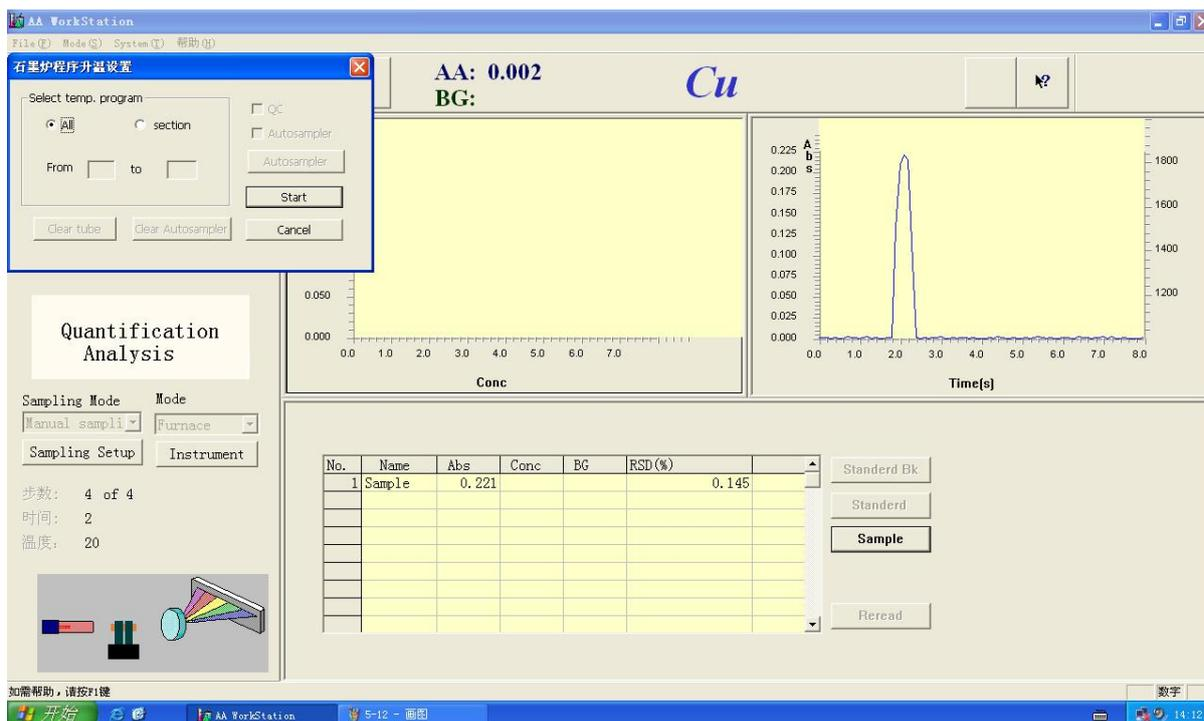

Figure 5-13
17. When the furnace cools warning tone of “du” will sounds,the “Stop”change into “Start”,Figure 5-13.